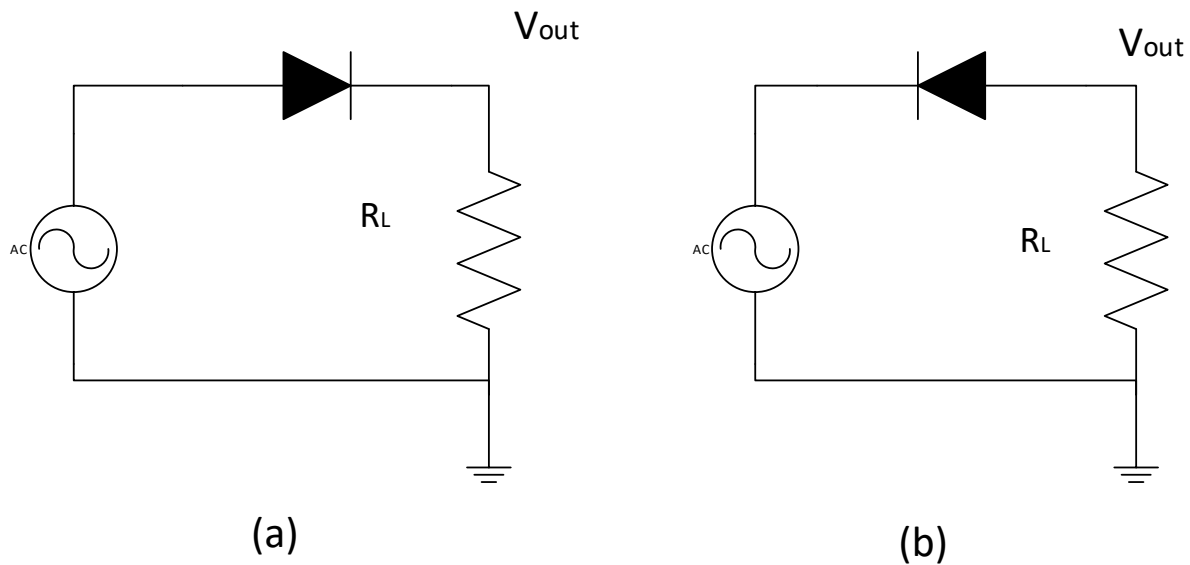

Fig. 8
a) Connect the half-wave rectifier of Fig. 8(a) with a suitable R_L and the diode 1N4004. Determine R_L so that you get a peak-to-peak current of 10 mA for a sinusoidal input signal (V_{in}) of 10 V peak to peak with a frequency of 1 kHz. Sketch the output V_{out} and input V_{in} for one complete cycle.
b) Repeat (a) using the circuit of Fig. 8(b).
Theoretical values for Fig. 8(a)
Experimental values for Fig. 8(a)
Theoretical values for Fig. 8(b)
Experimental values for Fig. 8(b)